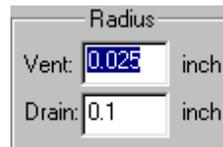

Figure 154. QuickCast Radius Dialog
- The defaults for the size of the Vents and Drains that 3D Lightyear software will create is Build Style-dependent. The values shown in the respective radii fields as shown in Figure 154, represent the size specifications that our Process Engineers have determined to be optimum for these features in the majority of cases.